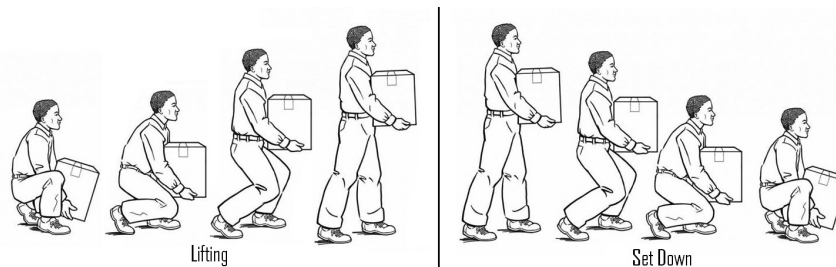

Figure 1
- When lifting and carrying, always keep the pump close to your body. (See Figure 1.)
- When starting the lift, bend your knees and keep your back straight. (See Figure 1.) Tightening the stomach muscles will help hold one's back straight.
- During the lift, use one's legs to do the work. Never use your back and make sure your legs are at least shoulder-width apart. (See Figure 1.)